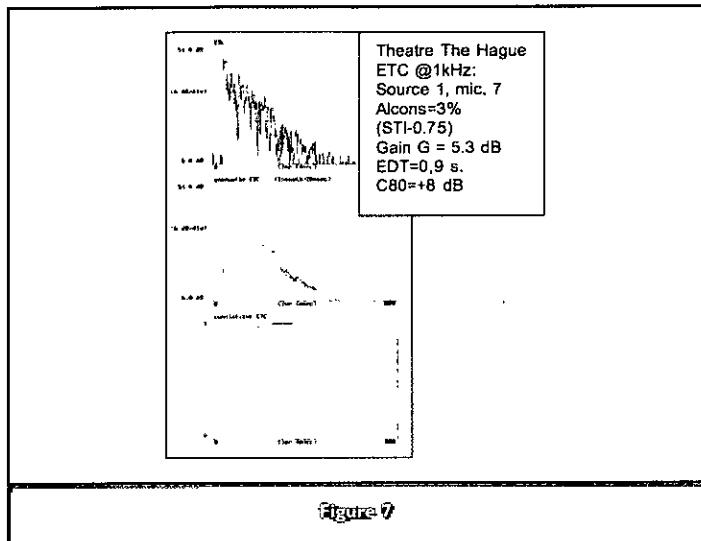
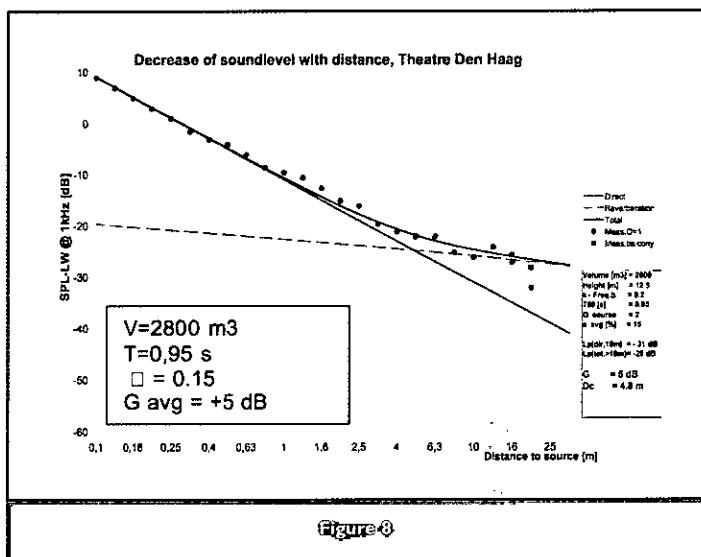

Figure 7
Figure 8
- The source position relative to the stage opening (Figures 7 and 8);
In Figure 7 an example of such a measurement is shown between source position 1 and microphone position 7 at 16m distance in the stalls. The graph of the arrival of the cumulative energy (lowest graph on Figure 7) shows that 50ms after the direct sound 80% of the energy has already arrived, which is owing to the large number of early reflections. This determines the very good intelligibility ($AL_{cons} = 3\%$). The clarity value $C80$ is also high (+8dB). Compared with larger theatres of around 5000m³ its strength is greater, with a value of $G = +5dB$ (source at position 4). The decrease with distance measured in this theatre in the 1kHz octave band is presented in Figure 8, together with the theoretical lines used to fit the acoustical room parameters. This results in an acoustical volume of 2800m³, a reverberation time $RT60$ of 0.95s and an average value for absorption coefficients (α_r and α_s) of 15%. The latter is partly because of the efficient audience arrangement and effective sight lines, with rather flat floors and balconies that are not raked too steeply.